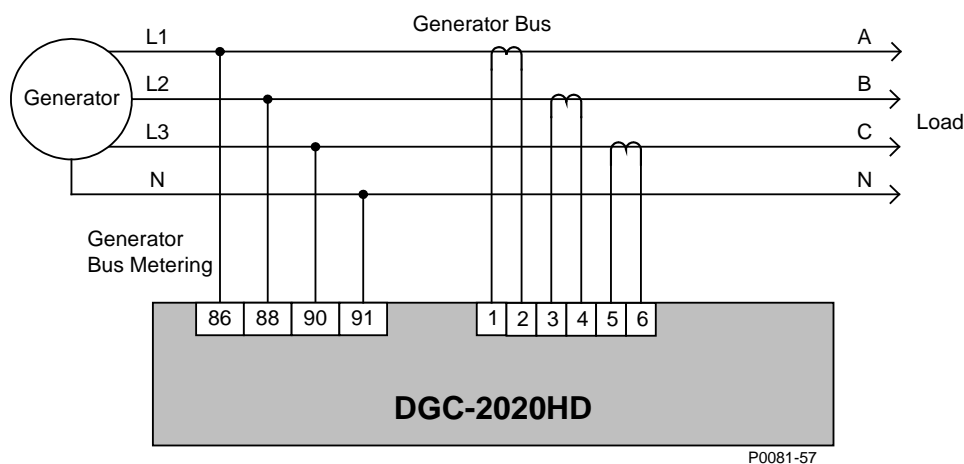

Figure 12. No Breaker Control Connections
- No breaker control Figure 12